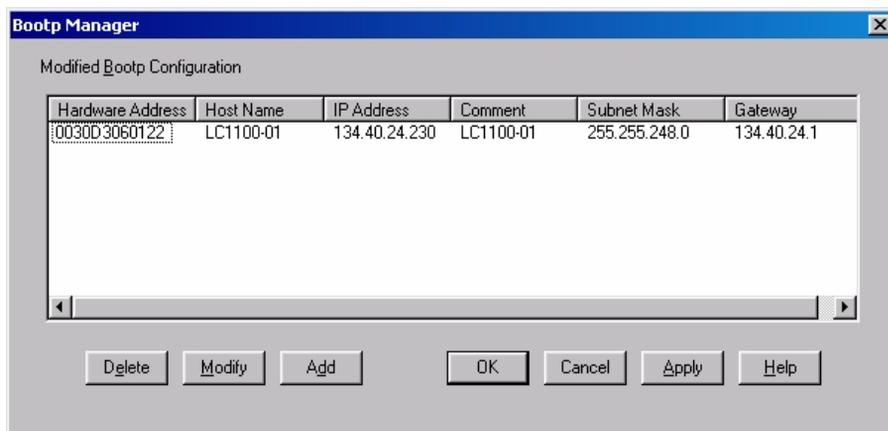

Figure 6 Bootp Manager
- 8 Select *Configure* -> *Bootp Manager*. All entries made above are shown in Figure 6 on page 27.